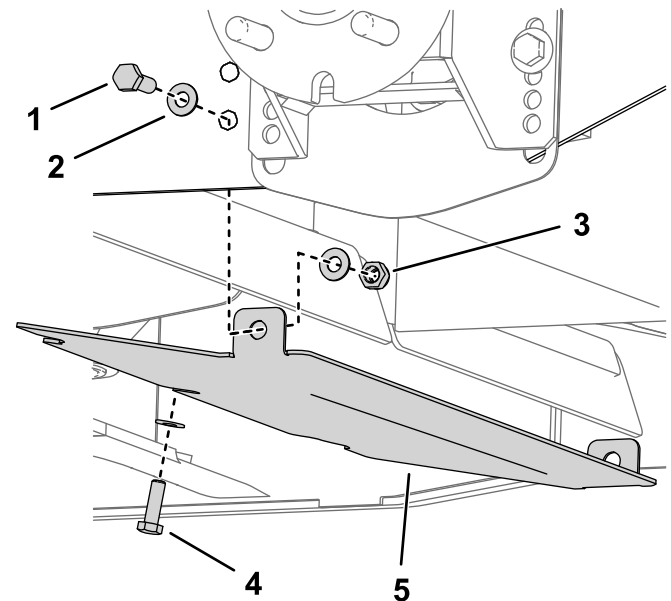

Figure 6
- A. Remove the center nut, bolt and washers from the center fixing on the deck (Figure 6).
- B. Install the guard to the traction unit using 2 bolts (M8 x 25 mm), 4 washers (M8–17), and 2 locknuts (M8) in the lower hole on the engine frame (Figure 6).
- C. Secure the front of the guard to the deck using the center bolt, washer, and nut you removed previously (Figure 6).